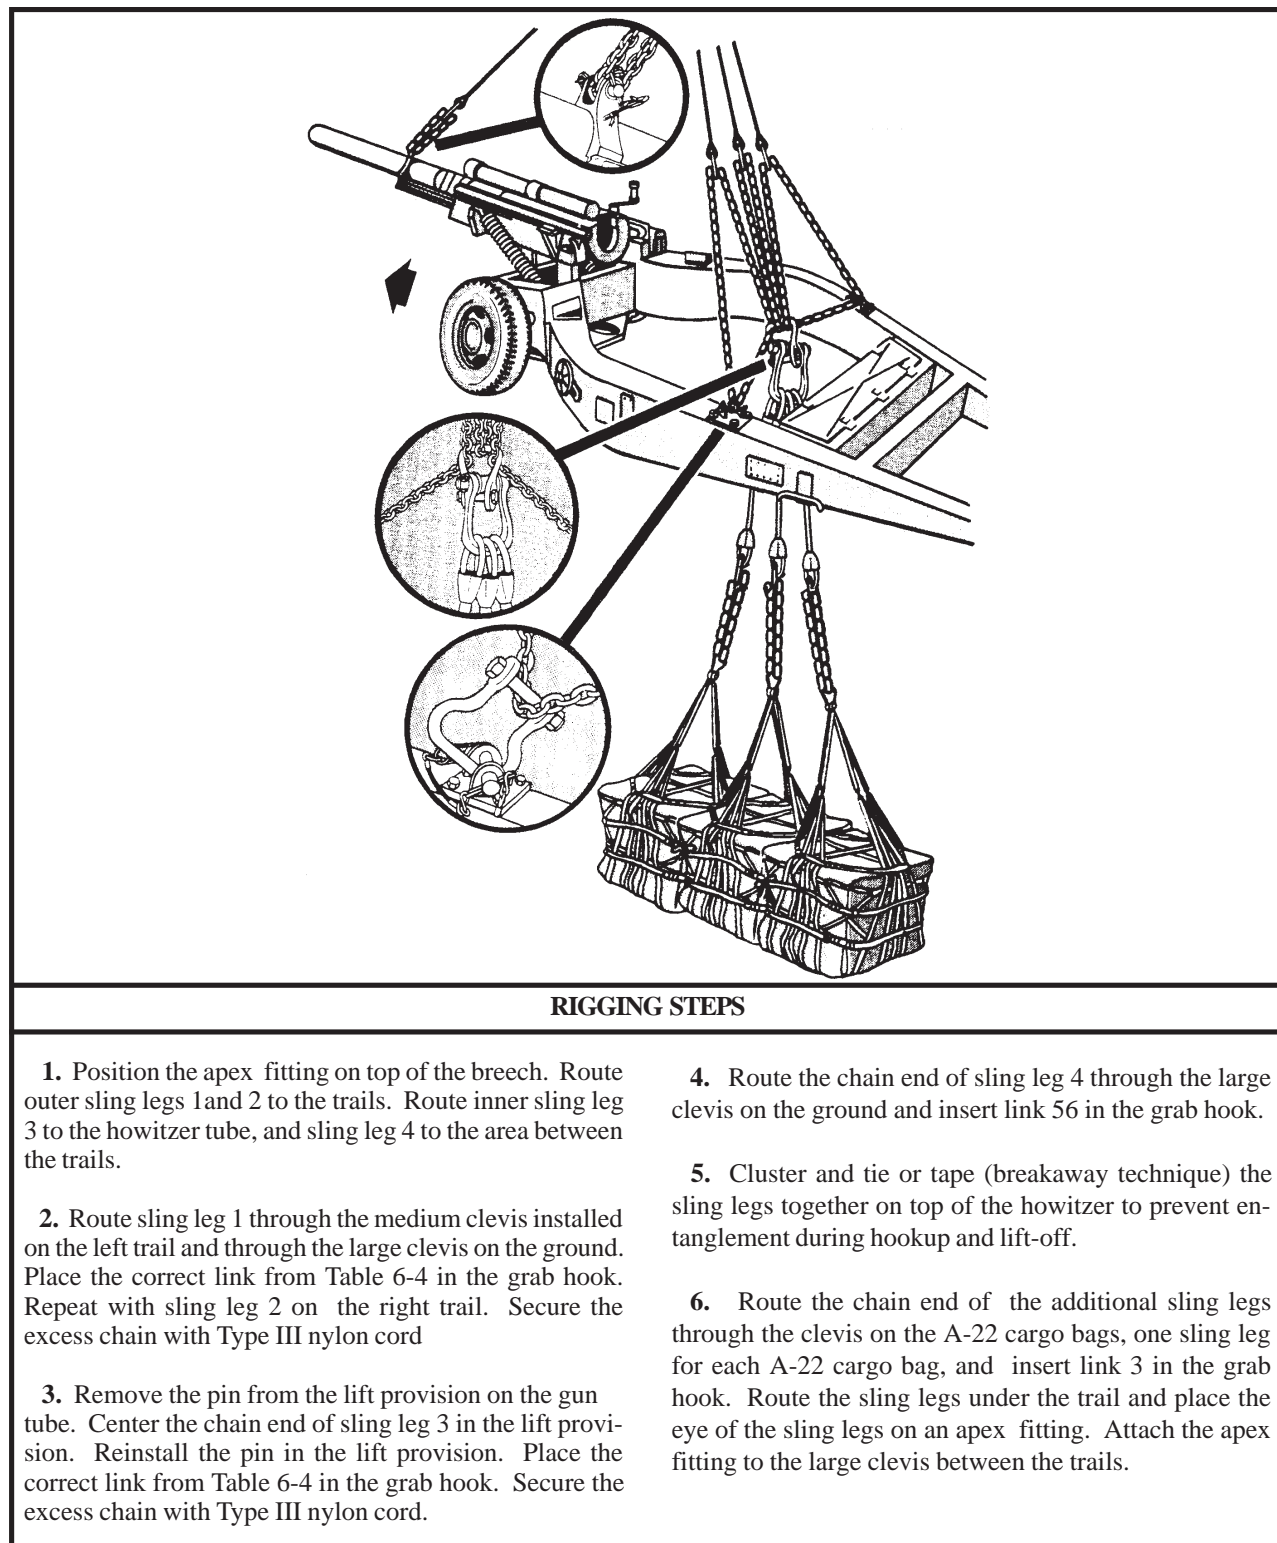

Figure 6-4. M102 105-MM Howitzer with Two or Three A-22 Cargo Bags
(2) Rigging. Rig the load according to the steps in Figure 6-4.
(3) Hookup. The hookup team stands on top of the trails next to the breech. The static wand person discharges the static electricity with the static wand. The hookup person places the apex fitting onto the aircraft cargo hook. The hookup team then moves clear of the helicopter but remains close to the load as the helicopter removes slack from the sling legs. When successful hookup is assured, the hookup team quickly exits the area underneath the helicopter to the designated rendezvous point.
(4) Derigging. Derigging is the reverse of the preparation and rigging procedures in steps d (1) and d (2).